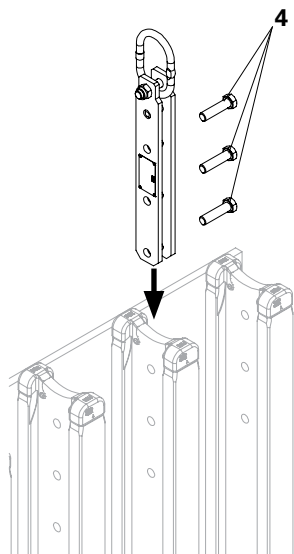

Fig. 3
1. Remove the bottom three bolts (4) and nuts (5) from the Crane Hook-2 VT 20, SW 30.
4. Insert the three bolts through the web of the VT 20 Formwork Girder and the two lugs of the Crane Hook-2 VT 20. (Fig. 3)